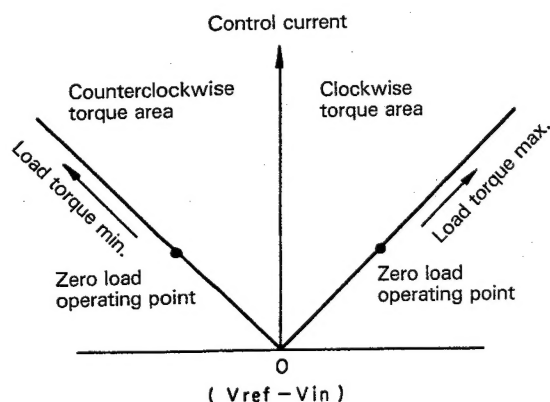

Fig. 10-14 Input/Output Characteristics
1. The signal from pin ⑥ (control input) is compared with that from pin ⑤ (reference voltage), and the difference in voltage is used to regulate the amount of current in the motor windings. The resulting input/output characteristics are shown in Fig. 10-14.